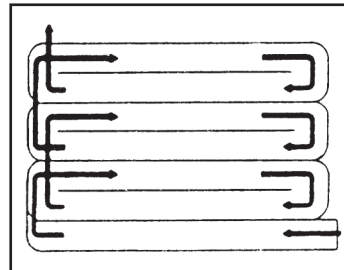

FIGURE 7
- Till in a pattern similar to that shown in Figure 7. Make the first pass, skip a space equal to the width of the tiller and make the return pass, then till the skipped area. Tilling in this pattern will enable you to maintain better control. If the passes are made side-by-side, the tractor and tiller will pull toward the tilled (soft) side.